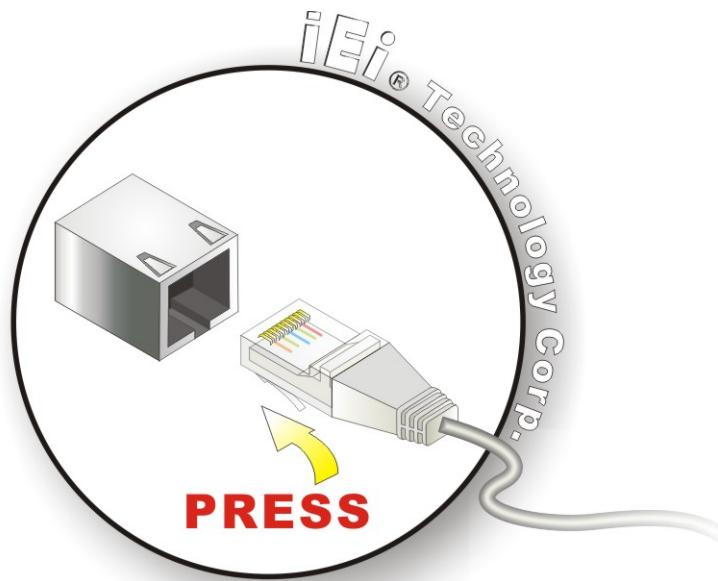

Figure 4-18: LAN Connection
Step 2: Align the connectors. Align the RJ-45 connector on the LAN cable with one of the RJ-45 connectors on the PICOe-PV-D4251/N4551/D5251. See **Figure 4-18**.